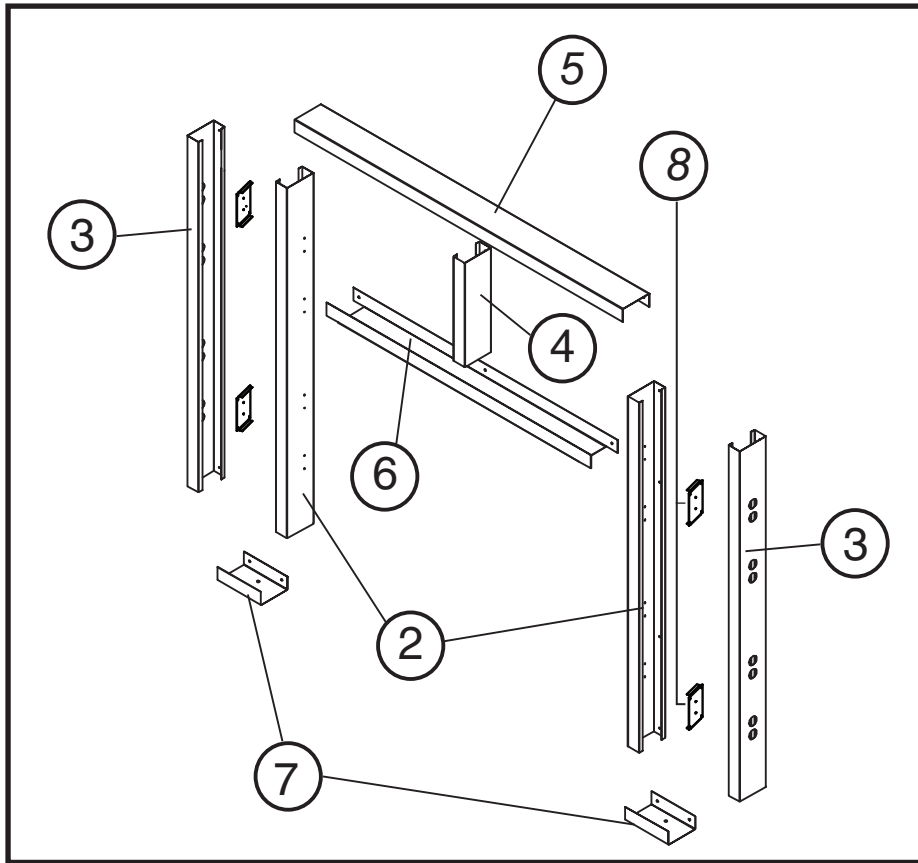
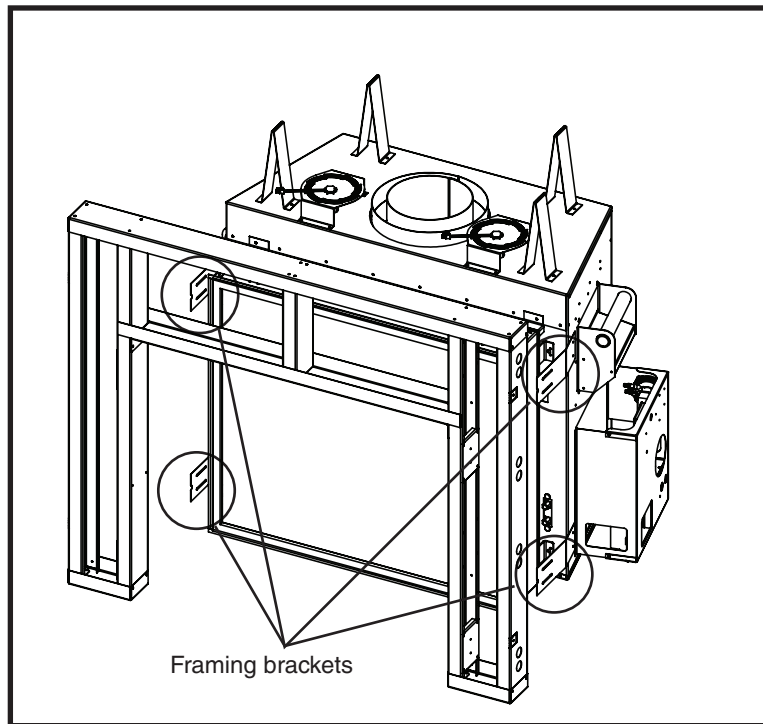

Figure 14: TC30 Framing kit parts.
Figure 15: TC30 Framing brackets.
1. Top Frame Assembly (Figure 14).
- Lay out side studs (2) and center stud (4) on a large flat surface.
- Using the screws provided (1), attach the header stud (5) and the plate stud (6) to the center stud (4).
2. Attach Side Studs (Figure 14).
- Fasten the Inner side studs (2) to the header (5) and plate (6) studs.
- Attach the outer side studs (3) to the top of the header stud (5)
- Fasten the outer side studs (3) at the bottom using the base plates (7).
- Align and secure the framing plates (8) to the frame so that they are in line with the framing brackets on the fireplace unit (Figure 15). Align the assembled frame to the unit framing brackets (Figure 15). Attach at the fastening points through the access holes in the outer side studs (3).
- Secure the frame assembly to existing framing through the stud header (5) and the stud plates (7).